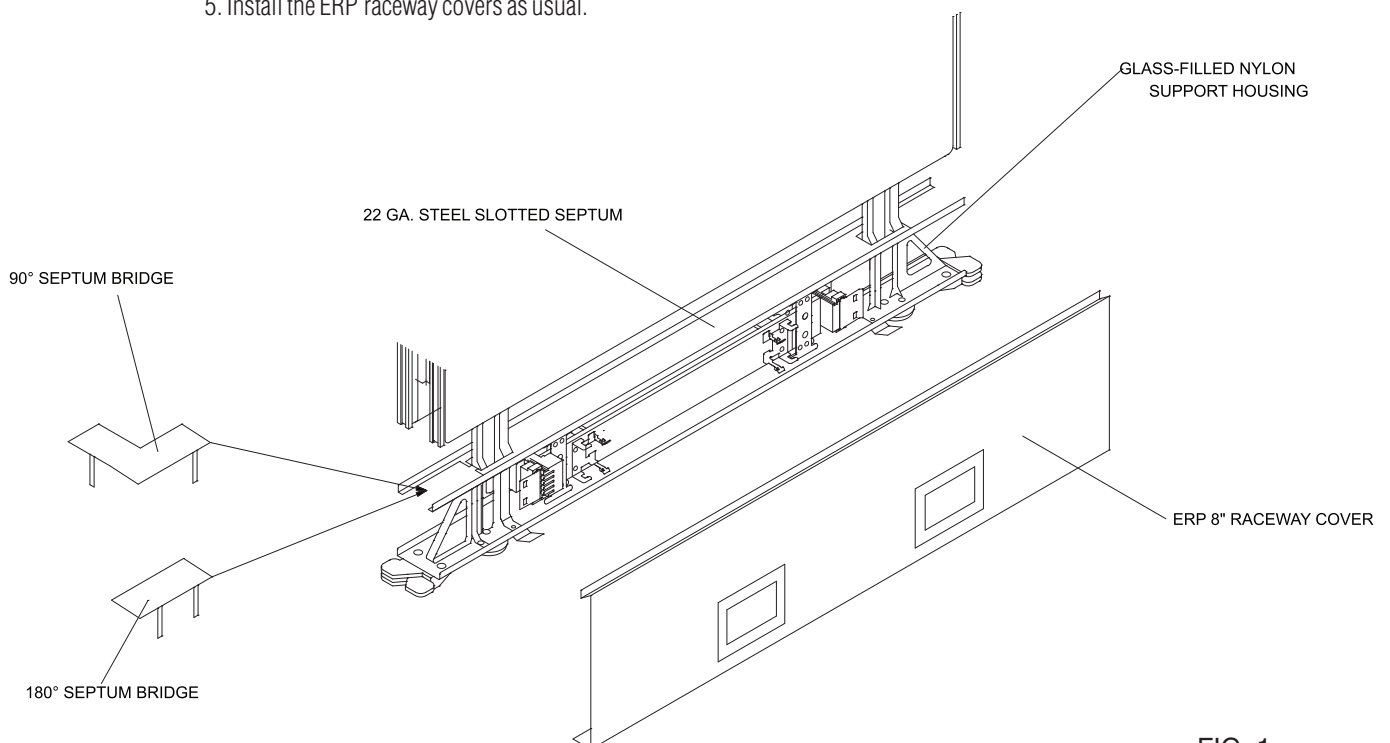

FIG. 1
2. Bend the 4 tabs down 90° on each end of the steel 90° steel septum bridges (Figure 1).